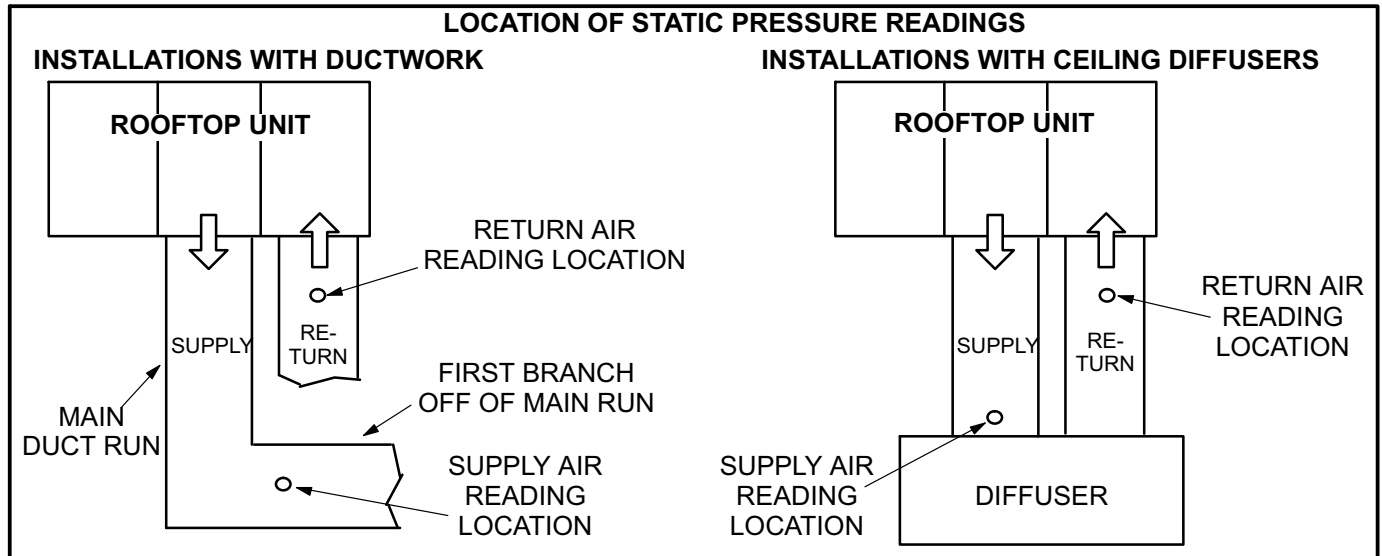

FIGURE 15
- 2- With all access panels in place, measure static pressure external to unit (from supply to return). Blower performance data is based on static pressure readings taken in locations shown in figure 15.